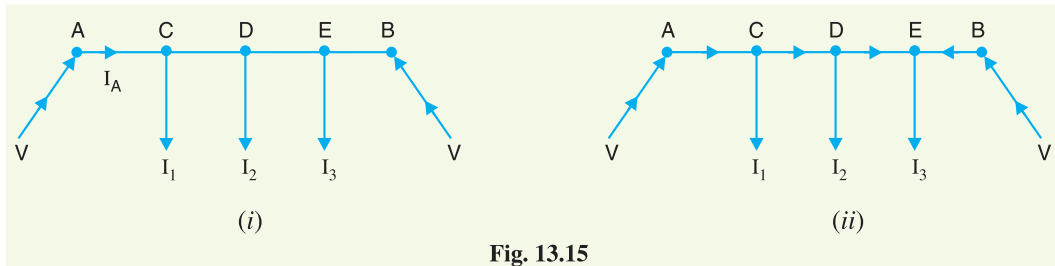

Fig. 13.15
**Point of minimum potential.** It is generally desired to locate the point of minimum potential. There is a simple method for it. Consider a distributor  $AB$  having three concentrated loads  $I_1, I_2$  and  $I_3$  at points  $C, D$  and  $E$  respectively. Suppose that current supplied by feeding end  $A$  is  $I_A$ . Then current distribution in the various sections of the distributor can be worked out as shown in Fig. 13.15 (i). Thus
From this equation, the unknown  $I_A$  can be calculated as the values of other quantities are generally given. Suppose *actual* directions of currents in the various sections of the distributor are indicated as shown in Fig. 13.15 (ii). The load point where the currents are coming from both sides of the distributor is the point of minimum potential *i.e.* point  $E$  in this case